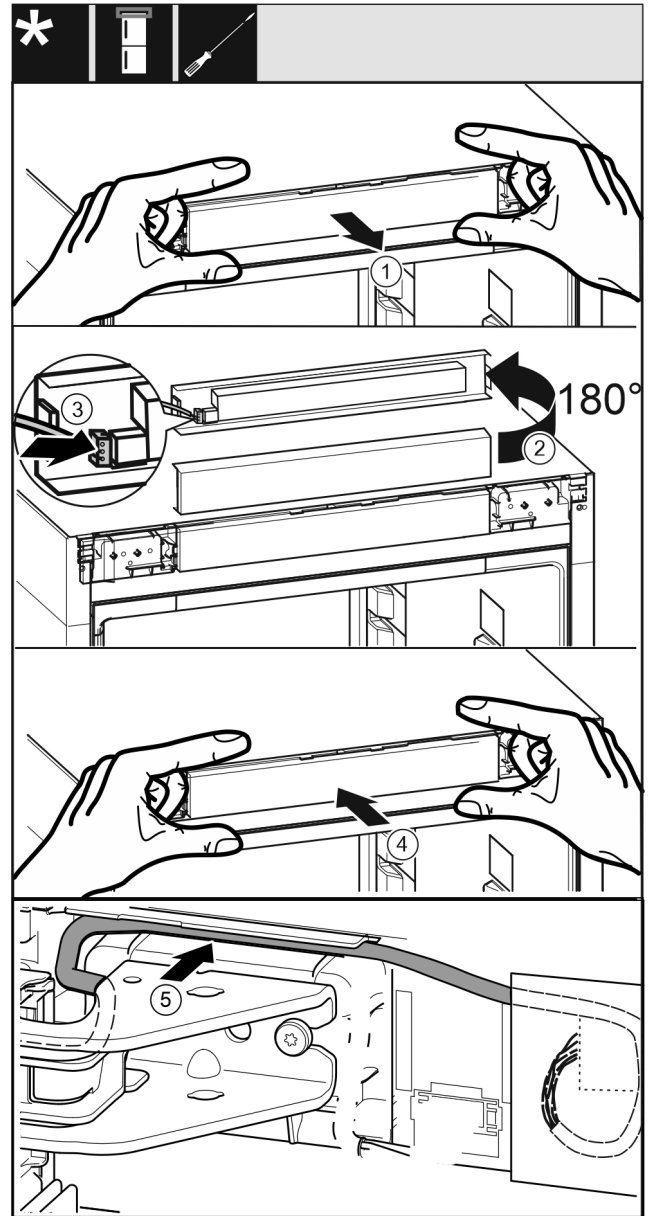

Fig. 43
- ▶ Take off the operating panel carefully. Fig. 43 (1)
- ▶ Turn the panel upwards through 180°. Fig. 43 (2)
- ▶ Engage the plug in the control panel. Fig. 43 (3)
- ▶ Latch the control panel back into the appliance. Fig. 43 (4)
- ▶ Carefully position the grey cable in the guide above the top bearing bracket. Fig. 43 (5)